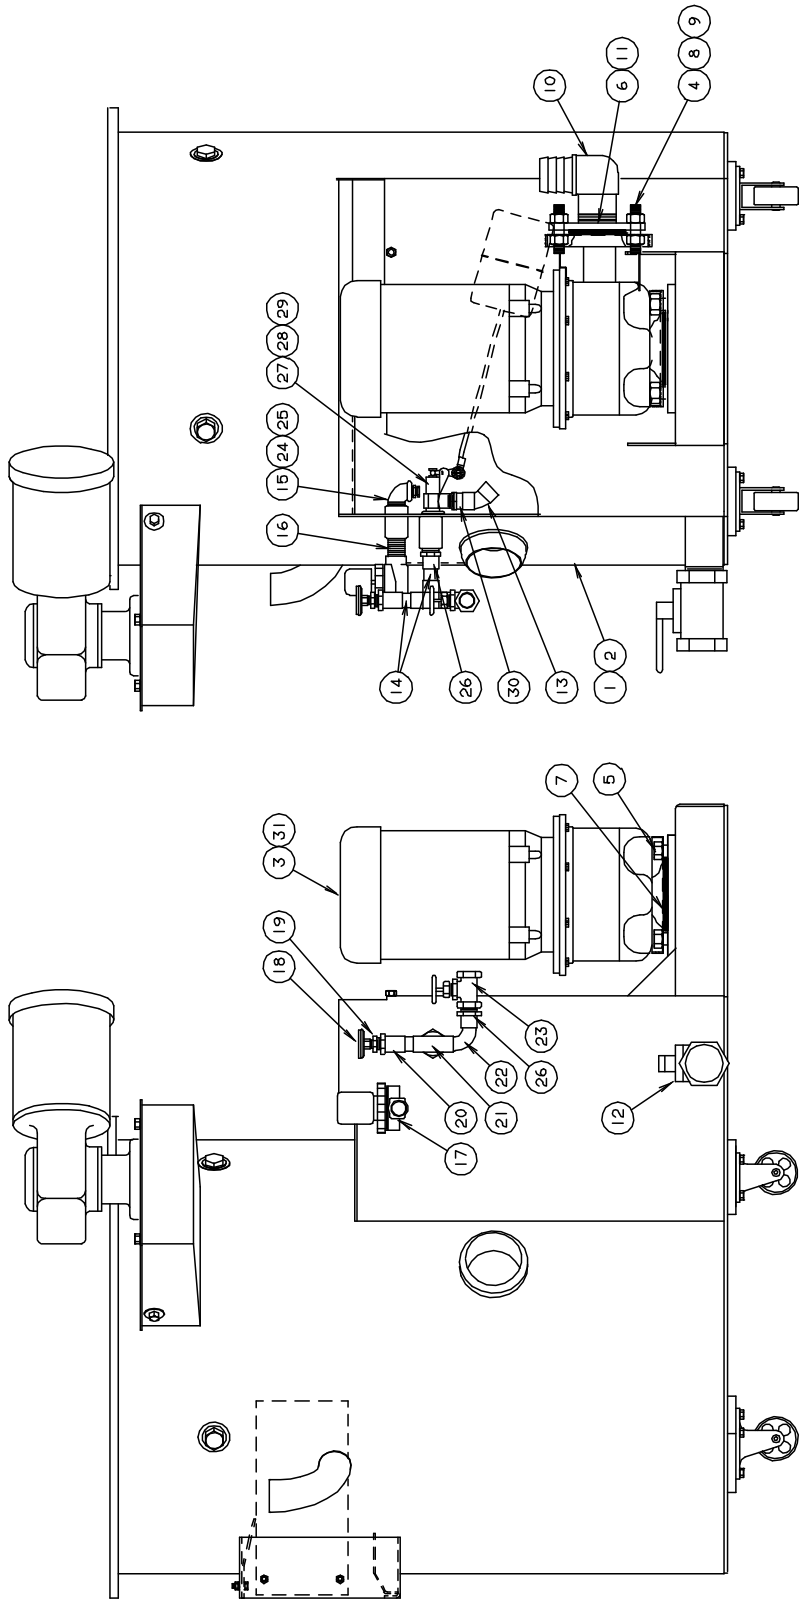

Figure 9-5B
1. Follow water tank removal instructions, Steps 1-9. See Figure 9-5B.
The cutter shaft and bearings are sealed in the bearing bracket assembly. The cavity between the bearings has been filled with a food-grade grease to prevent the presence of moisture and prolong the life of the unit. If there is any vertical or side movement of the shaft or if the bearings feel rough or tight when turning the shaft, the assembly should be dismantled and rebuilt. Refer to the cutter tank assembly drawing, Figure 9-5B, for parts location and identification.